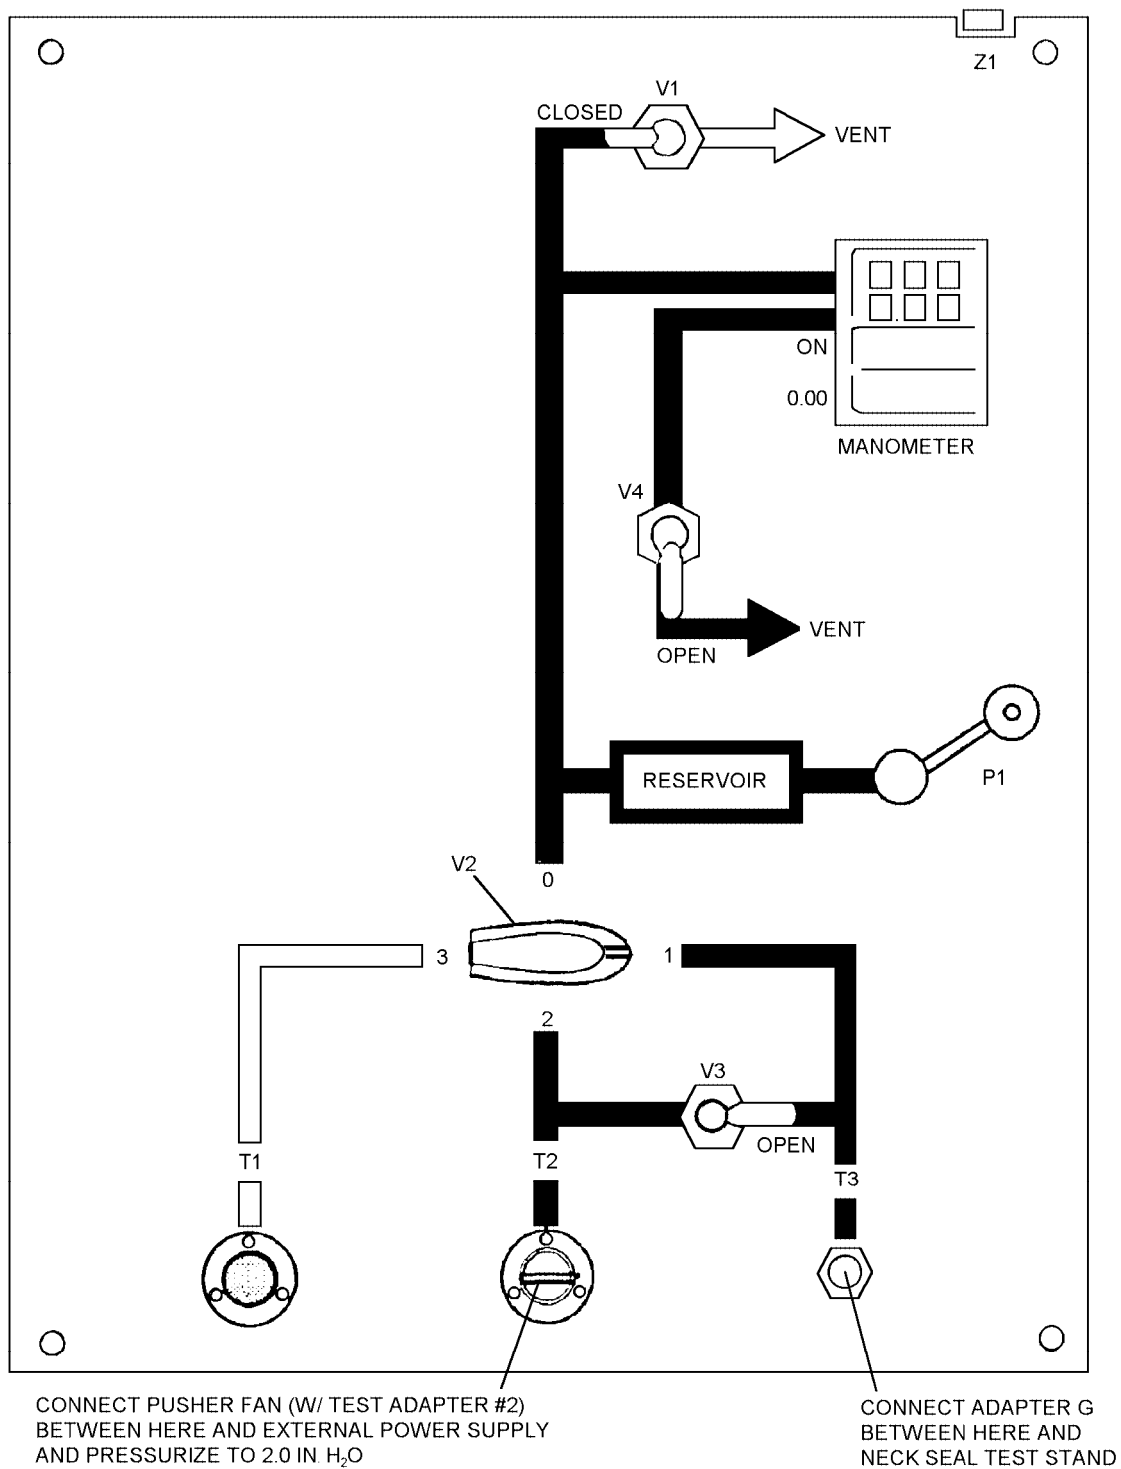

Figure 4-88. Mask Assembly - Overall Leakage Test
3. Ensure adapter G is correctly fitted between T3 and neck seal test stand port (figure 4-88).
8. Connect free end of test adapter #2 to T2 (figure 4-88).